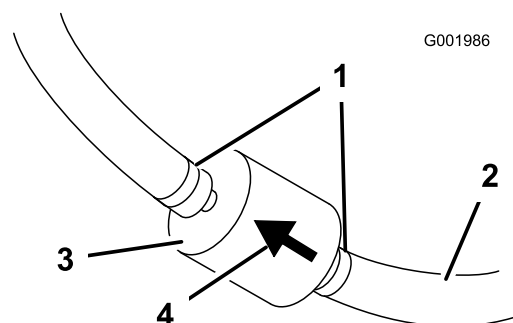

Figure 51
- Squeeze the ends of the hose clamps together and slide them away from the filter (Figure 51).